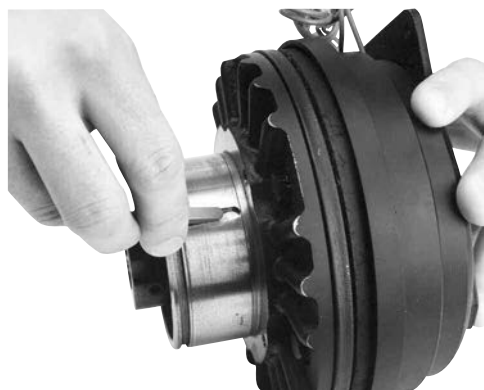

Figure 1
2. Install the factory-ordered sheave or pulley by first inserting the key in its keyway. Place the sheave or pulley so it will fit onto the hub, aligning the keyway with the key and keeping the sheave tapped holes facing away from the clutch. (See Figure 1)